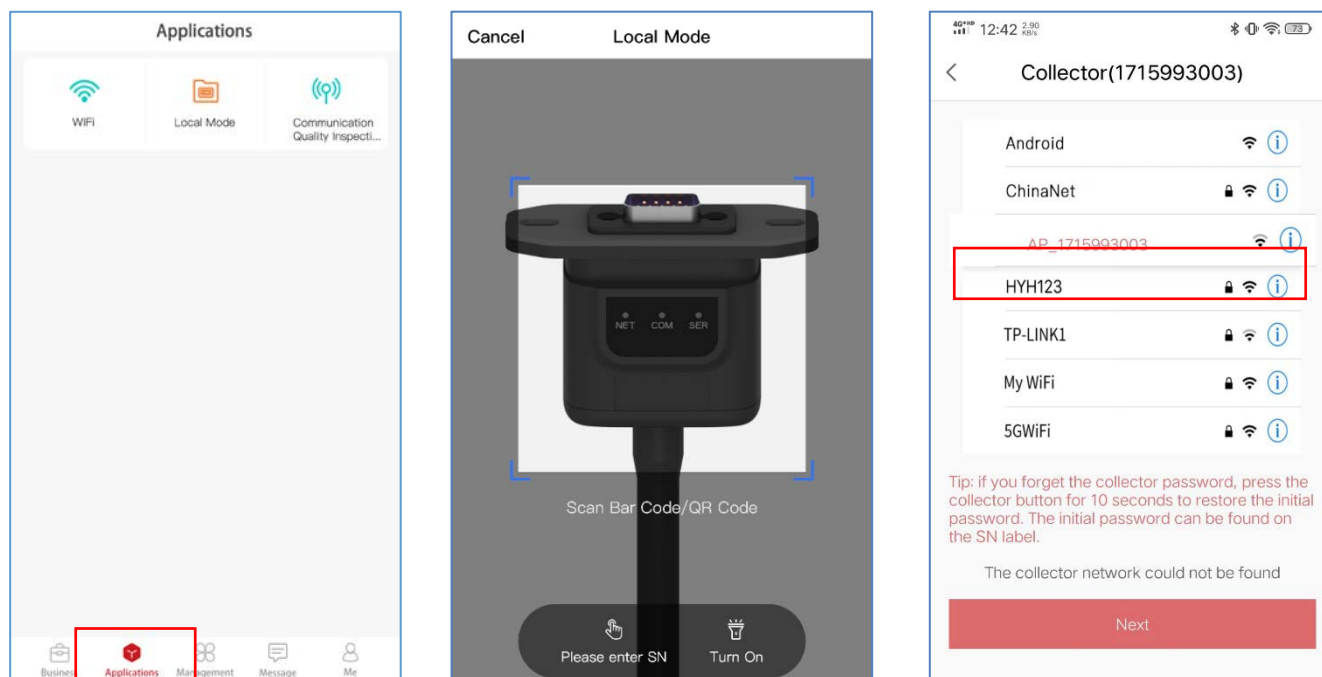

FIG.9.3 Connect to logger AP
- 1) Enter “Application”, as per FIG.9.3.